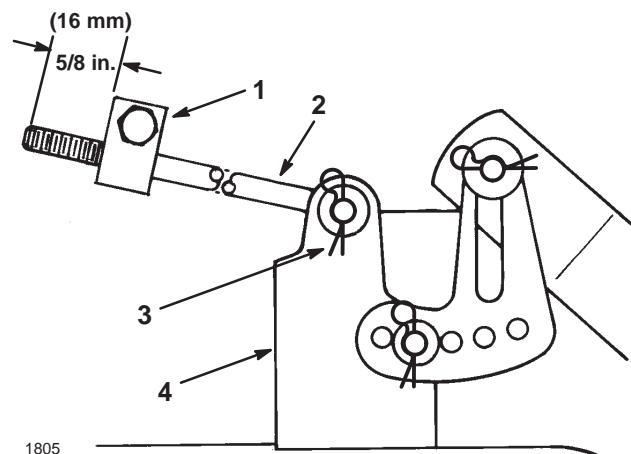

Figure 49
5. Measure the length of the rod extending out of the front of the adjusting block on the sides of the chassis (Fig. 49). If the rod length is not 5/8 in. (16 mm), remove the hairpin cotter and washer from the end of the rod (Fig. 49) and turn the rod until the 5/8 in. (16 mm) dimension is obtained. Then install the end of the rod into the hole in the mower mount and secure it with the washer and hairpin cotter. Repeat this procedure on the opposite side of the mower.